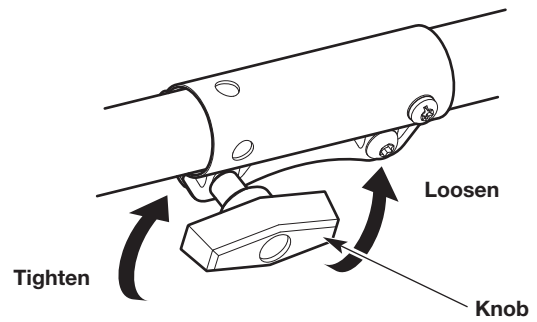

Fig. 5
3. Turn the knob counterclockwise to loosen the coupler (Fig. 5).
6. Turn the knob clockwise to tighten the coupler (Fig. 5).
2. Turn the knob counterclockwise to loosen the coupler (Fig. 5).